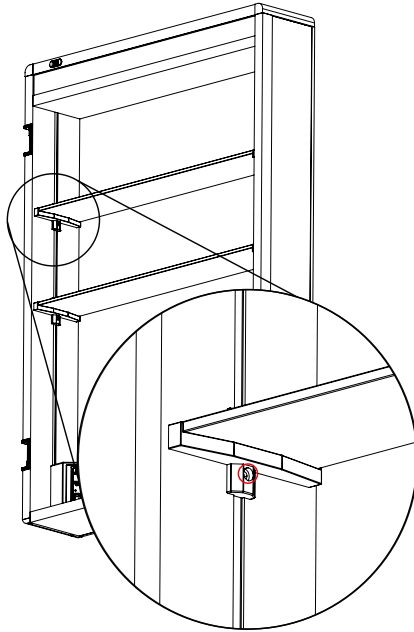

Fig. 5. - Shelf Bracket Adjustment
9. When the cabinet is correctly fitted, adjust the shelf support brackets to your desired height ensuring the matching brackets are level. This is done by slightly loosening the screw, do not remove the screw completely. Once in position tighten screw to secure the bracket and put the glass shelf into the shelf support bracket, *see Fig. 5.*